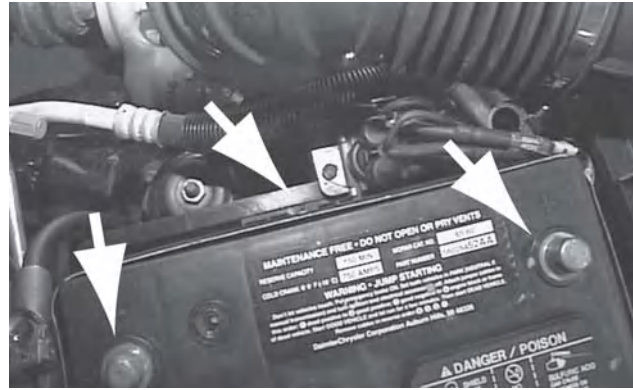

Fig. 6a
- Use a battery terminal puller to disconnect the negative (-) leads from both batteries. (see figure 6a)
- Use a battery terminal puller to disconnect the positive (+) leads from both batteries. (see figure 6a)
- Loosen and remove the clamps that hold the batteries firmly in the battery trays. (see figure 6a)